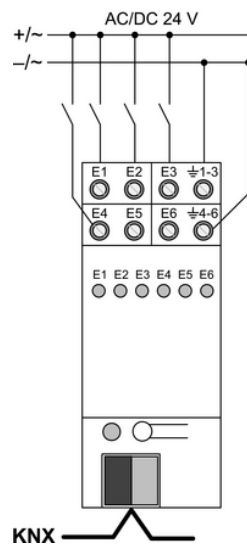

Figure 4: Connection example for 24 V binary input
- Connect device as shown in the connection example (Figure 4). Common reference potential for inputs **E1...E3** and **E4...E6**.